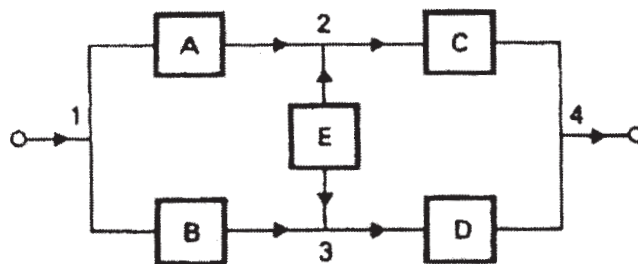

Fig. 5
- b) Define minimal tie set and minimal cut set. Write all the possible tie sets and cut sets for the system shown in Fig.5. Obtain minimal tie sets and minimal cut sets. [8]